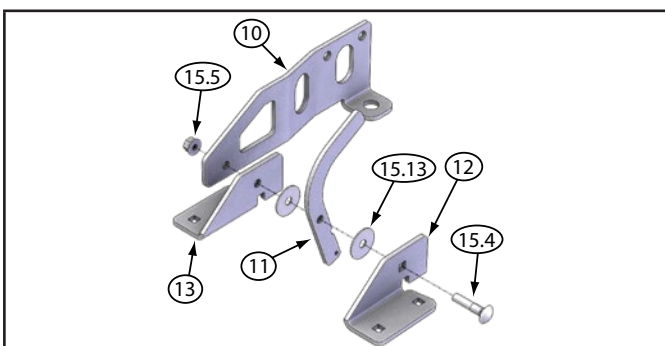

Figure 4 - Angle Lever Assembly (B)
1. Assemble left handle plate (12), 2× washer (15.13), pivot handle (11), right handle plate (13), and hook plate (10) using the 5/16 x 11/2 in. (7.9 x 38.1 mm) standard carriage bolt (15.4) and 5/16 in. (7.9 mm) flange nut (15.5) as shown in Figure 4. Tighten down nut so that angle lever moves freely. This will create the angle lever assembly (B).